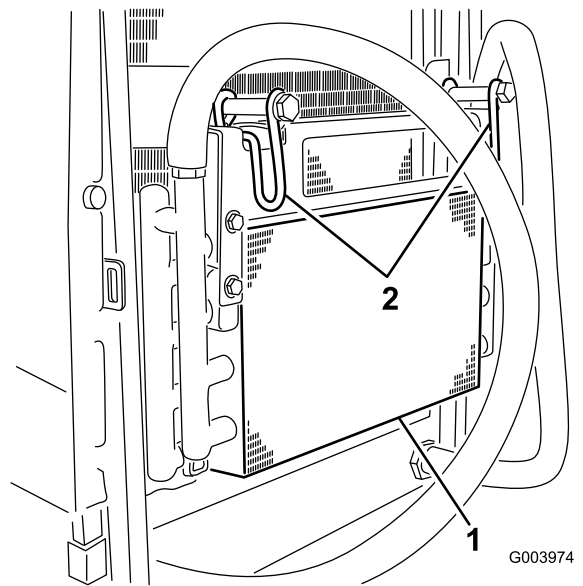

Figure 69
5. Pivot the latches inward to release the oil cooler (Figure 69).